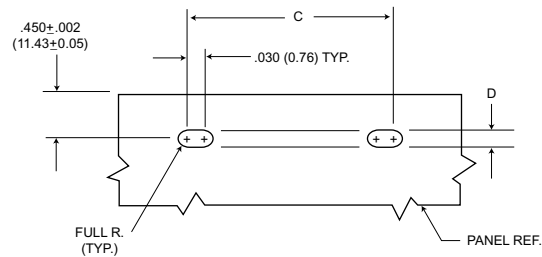

Figure 3
3. Edgeboard mounting bracket (figure 3) uses #2-56 screws. Dimension $.450 \pm .002 (11.43 \pm 0.05)$ locates the MD receptacle flush with the end of the board.